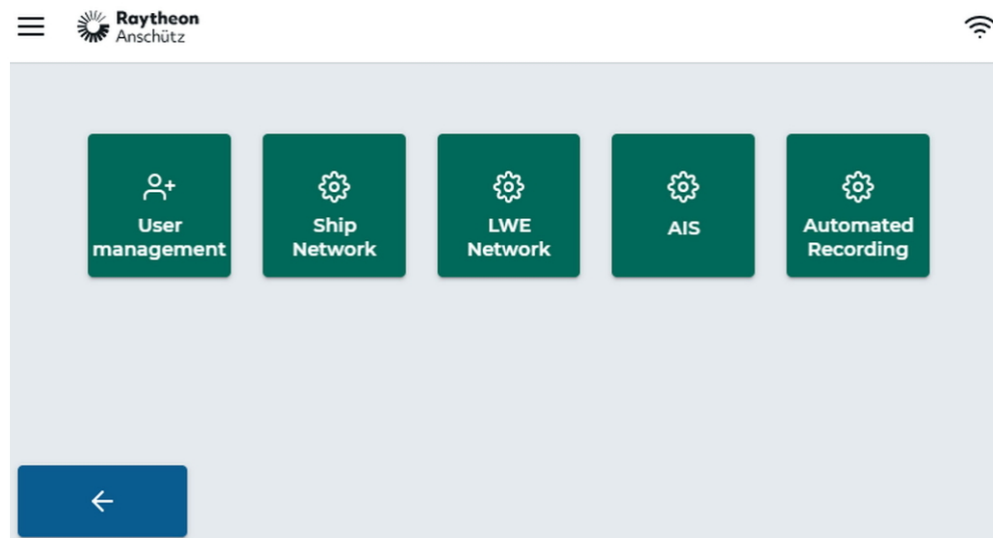

Fig. 9: Menu Settings
2. Select the softkey **LWE Network**, see Fig. 9.